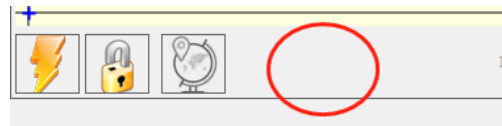

Figure 2: Add custom button
1. Add custom buttons in the software according to your usage. We recommend the official Custom Buttons from LaserGRBL. Custom button download address: <http://lasergrbl.com/usage/custom-buttons/>. The downloaded custom button is displayed in figure2 below.